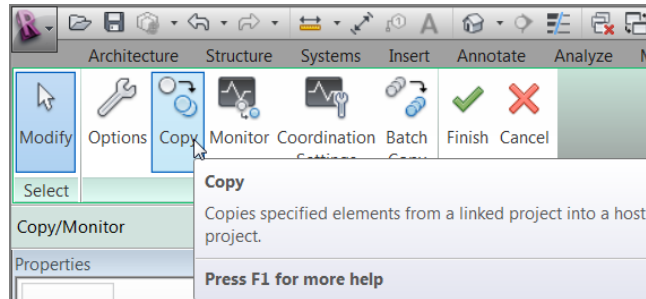

FIGURE 20.6: Clicking the Copy button
4. On the Copy/Monitor tab, click the Copy button, as shown in Figure 20.6.